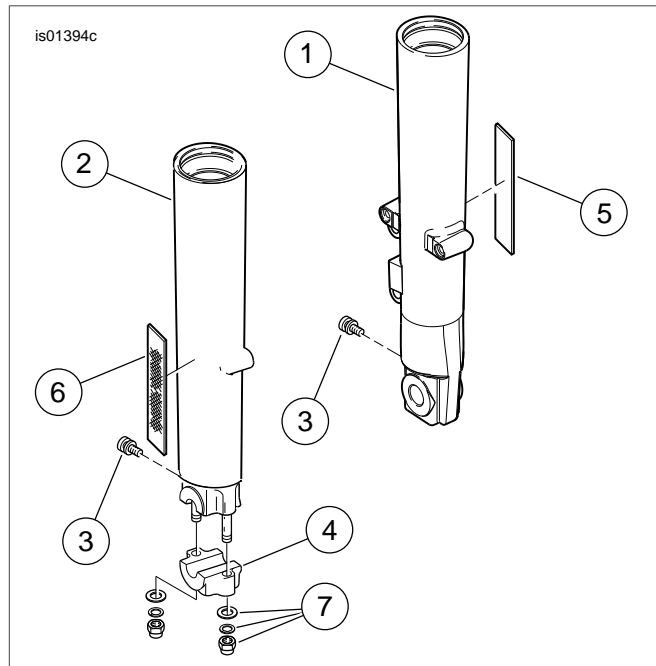
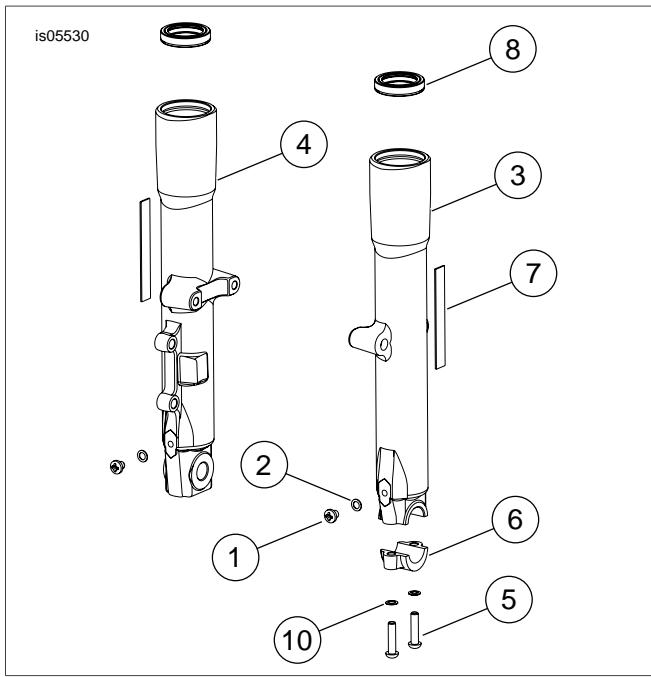

Figure 2. Service Parts: Chrome Fork Sliders - Early Models
Figure 3. Service Parts: Chrome Slider Kits - Later Models
See Figure 2, Table 1, Figure 3 and Table 2.
See Figure 2. Repeat procedure on the opposite side fork slider.
- Early Models with 39 mm forks (see Figure 2): Tighten to 13-17 **in-lbs** (1.5-1.9 Nm)
- Early Models with 41 mm forks (see Figure 2): Tighten to 52-78 **in-lbs** (5.8-8.8 Nm)
- Later Models (see Figure 3): Tighten to 52-78 **in-lbs** (5.8-8.8 Nm)